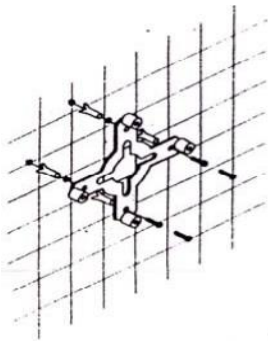

FIG 1
1. Place the light support in the assigned place, as shown in fig.1. Note position of the holes and drill and screw support into the wall.